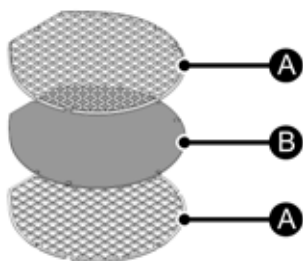

Fig. 17 - air filter.
- » Check that the wiring box is properly closed and positioned correctly in its lodging, and the spring tightened. The box must have the surface of the cover resting on the two surface locators as pointed out in Fig. 17
**ATTENTION:** never enable the humidifier without the air filter fitted! The air filter is composed of three pieces that must be assembled in such a way that the filter material **B** is enclosed between the two plastic grids **A** (Fig. 17).